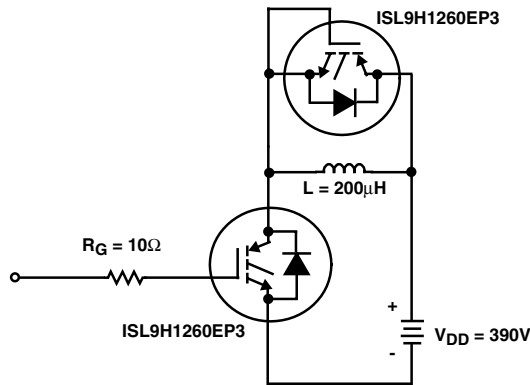

FIGURE 26. INDUCTIVE SWITCHING TEST CIRCUIT
- Values for two Turn-On loss conditions are shown for the convenience of the circuit designer. E_{ON1} is the turn-on loss of the IGBT only. E_{ON2} is the turn-on loss when a typical diode is used in the test circuit and the diode is at the same T_J as the IGBT. The diode type is specified in Figure 26.